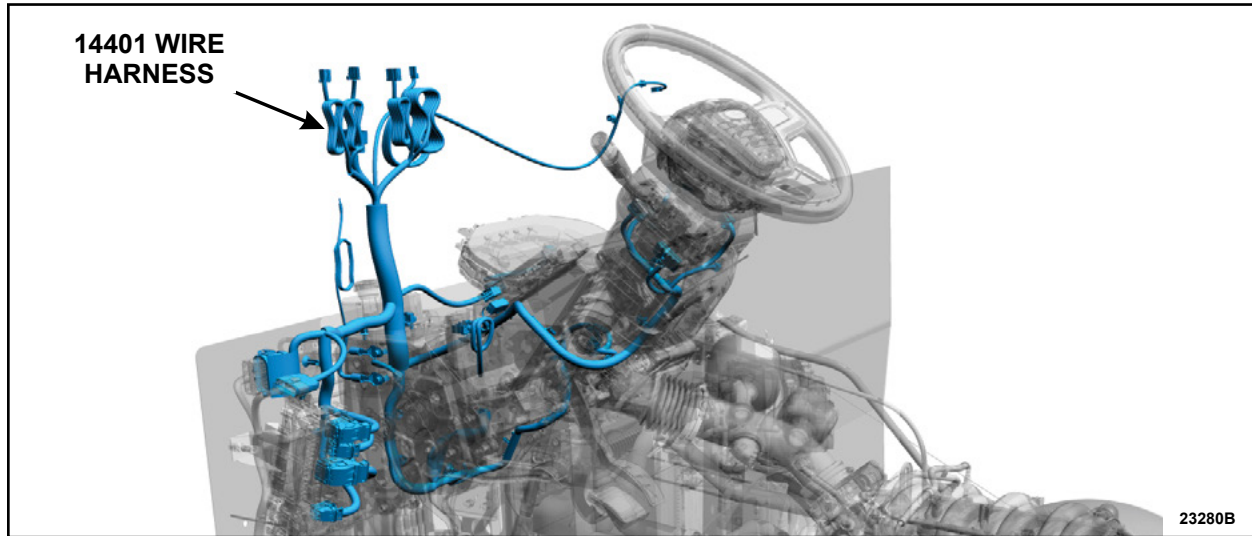

FIGURE 4
7. Replace the 14401 wire harness. See Figure 4.